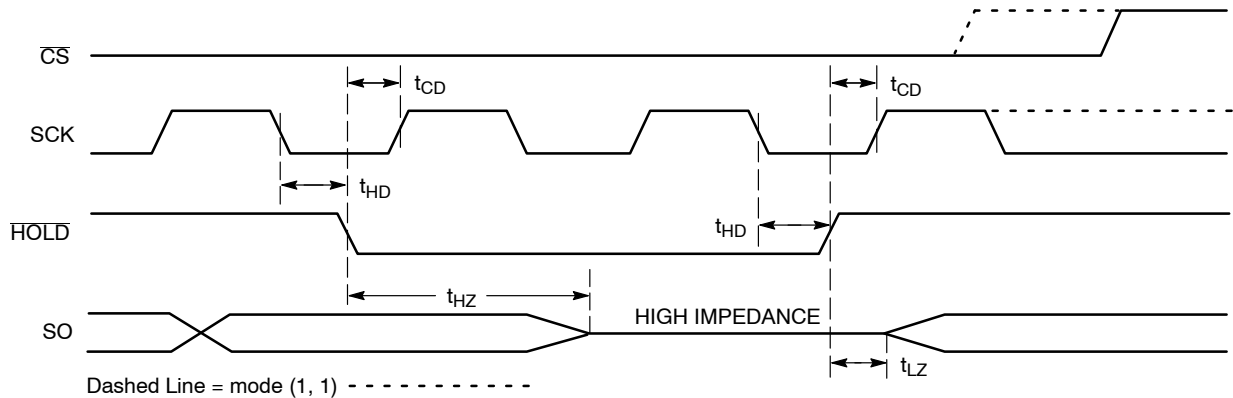

Figure 11. HOLD Timing
The $\overline{\text{HOLD}}$ input can be used to pause communication between host and CAT25080/160. To pause, $\overline{\text{HOLD}}$ must be taken low while SCK is low (Figure 11). During the hold condition the device must remain selected ($\overline{\text{CS}}$ low). During the pause, the data output pin (SO) is tri-stated (high impedance) and SI transitions are ignored. To resume communication, $\overline{\text{HOLD}}$ must be taken high while SCK is low.